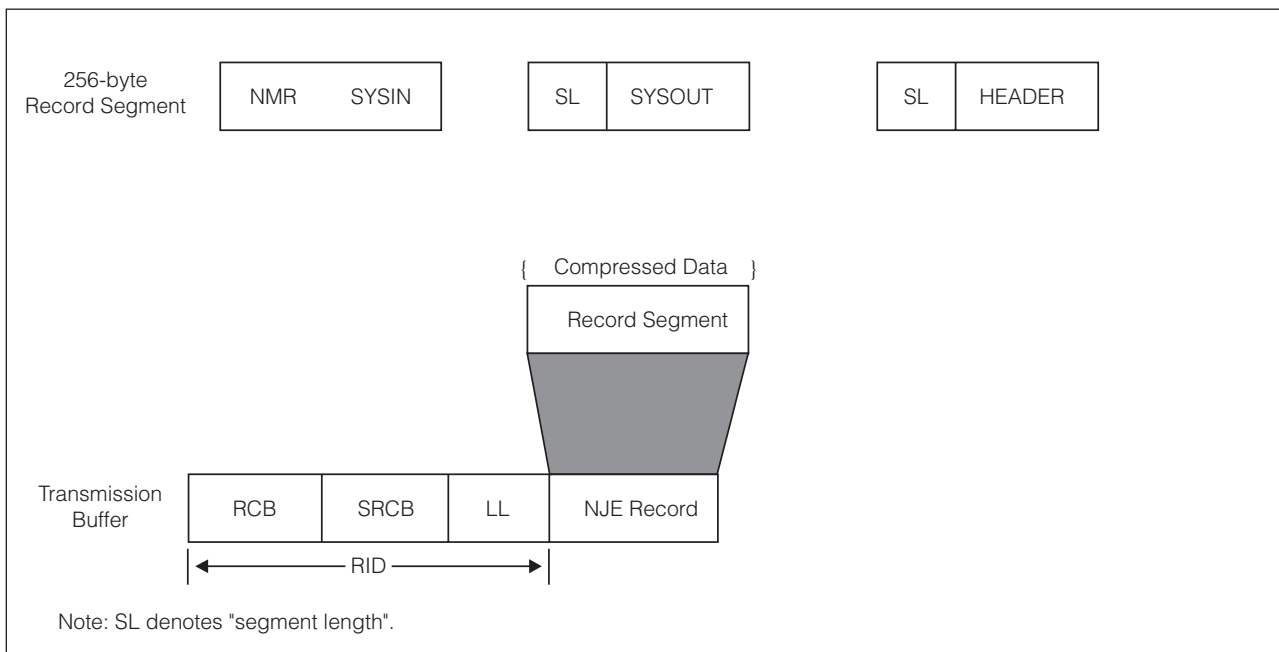

Figure 9. Format of a Transmission Buffer for SNA Protocol
After the data in the NJE record is compressed, including the record identifier (RID), it is placed in the transmission buffer. A transmission buffer for SNA protocols is also called a request unit (RU). There is no control information placed before the first transmission NJE record. Figure 9 illustrates the format of a transmission buffer to be transmitted using the SNA protocol.